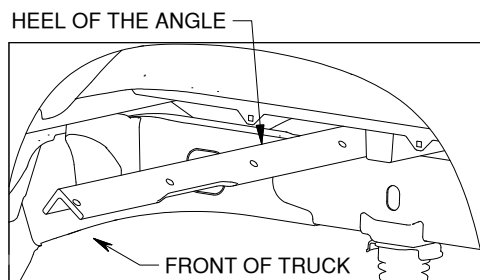
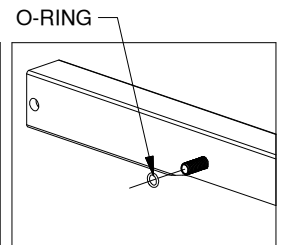

Figure B1: View looking into wheel well.
Figure B2.
- 1. Install front cross member.** Starting in the driver side wheel well, orient the front cross member (angle iron) so that the heel of the angle is up and the flange with the holes is towards the back of the truck, see Figure B1. Pass the cross member between the bed and the frame until it rests on the passenger side frame. Roll the cross member so that the flange with the holes is vertical. Install a 1/2" X 1-1/2" cap screw into the second hole from the driver side of the cross member with the threads towards the back of the truck. Install the rubber O-Ring onto this bolt to keep it in place during installation, See Figure B2. Push the passenger side of cross member forward until it hits the shock bracket. Push the driver side of the cross member forward to make extra room for the center section to be installed.